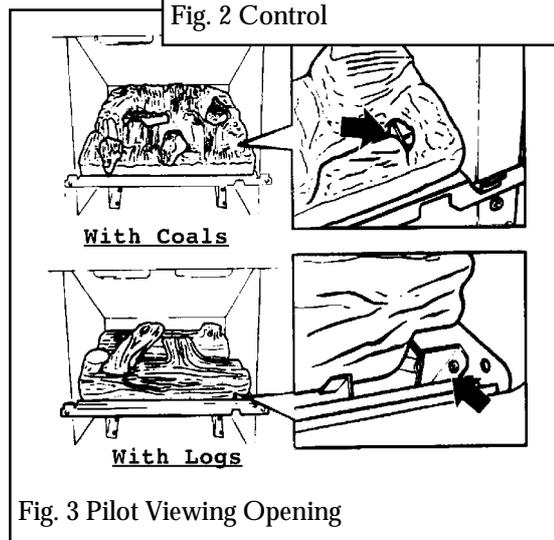

Fig. 3 Pilot Viewing Opening
The pilot flame can be seen by looking through the gap at the front corner of the fuel effects - see figure 3.
2.7.3 Depress the control knob and turn to the IGN position. Keep it depressed while lighting the pilot and for a few seconds afterwards. The pilot flame can be seen by looking through the gap at the front corner of the fuel effects - see figure 3.